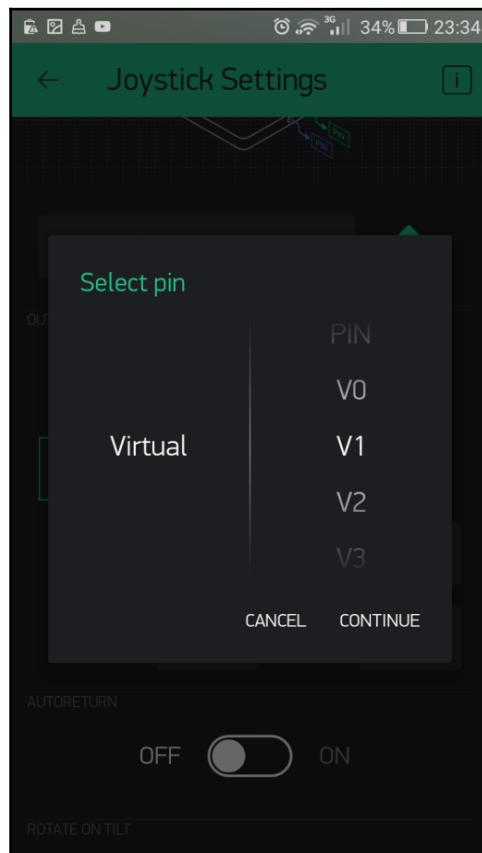

Figure 4.7: Selecting the virtual pin V1
- **MERGE** mode can be used with virtual pins only. Use the virtual pin **V1**. This will allow the joystick widget to write to pin **V1** (*Figure 4.7*):